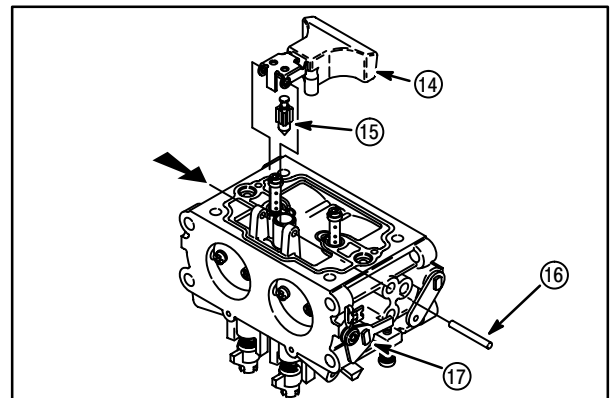

Fig. 64
- Drive out float hinge pin (16) from side **OPPOSITE** throttle lever (17). Remove float (14) and fuel inlet needle (15) assembly, **Fig. 64**.